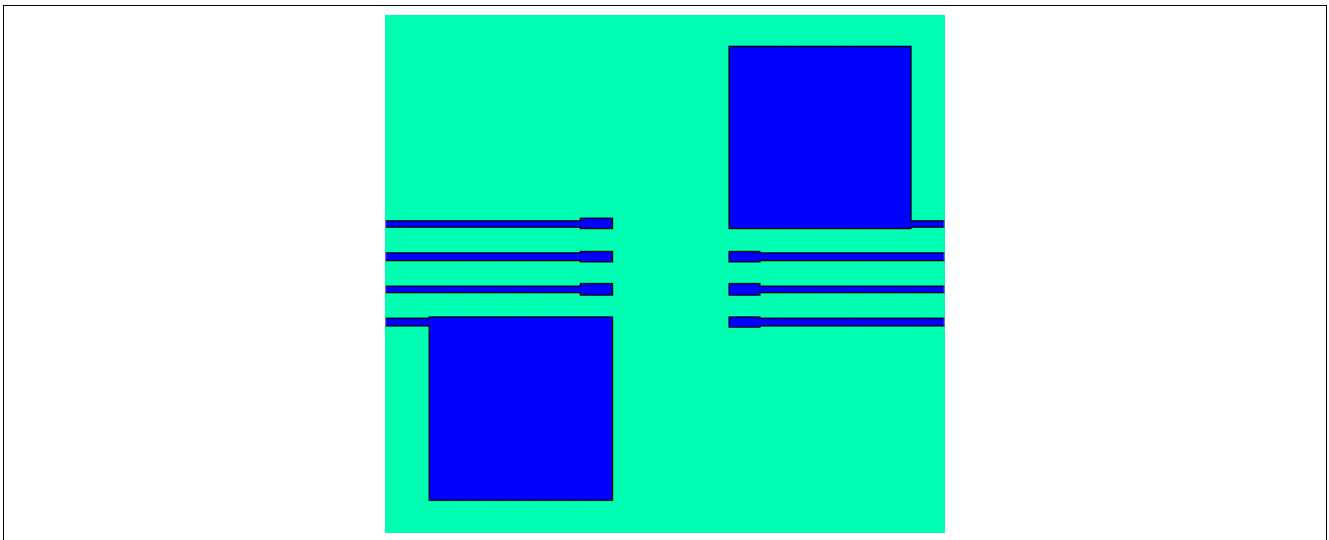

Figure 10 Reference Layout for Thermal Data (Copper thickness 35 μm)
2) See Figure 10 for reference layouts for these thermal data. Thermal performance may change significantly with layout and heat dissipation of components in close proximity.
The PCB layout shown in **Figure 10** represents the reference layout used for the thermal characterisation. Pin 4 (GND1) and pin 8 (GND2) require each a ground plane of 100 mm² for achieving maximum power dissipation. The Separate output variant for MOSFET is conceived to dissipate most of the heat generated through these pins.